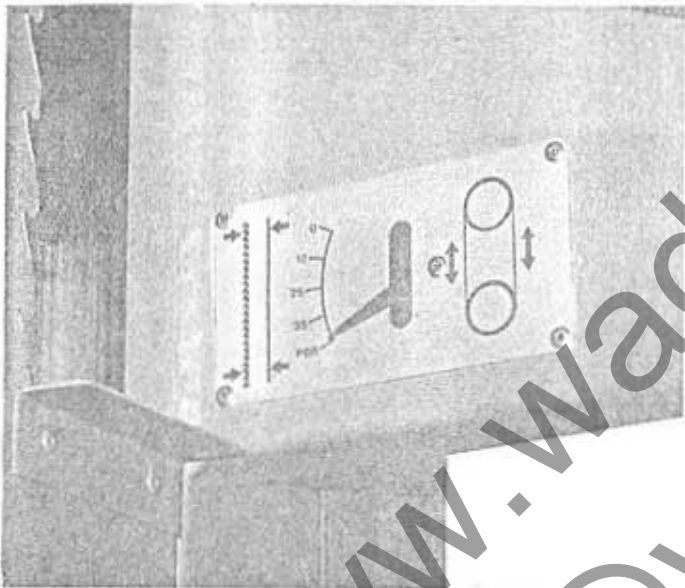

FIG 7 TENSION INDICATOR
- FIG. 7. Tension Indicator
- 4) Adjust top wheel sufficient to allow blade to be fitted to both wheels, tension saw blade until pointer on tension indicator (See fig 7, page 9.) indicates P.B.R.